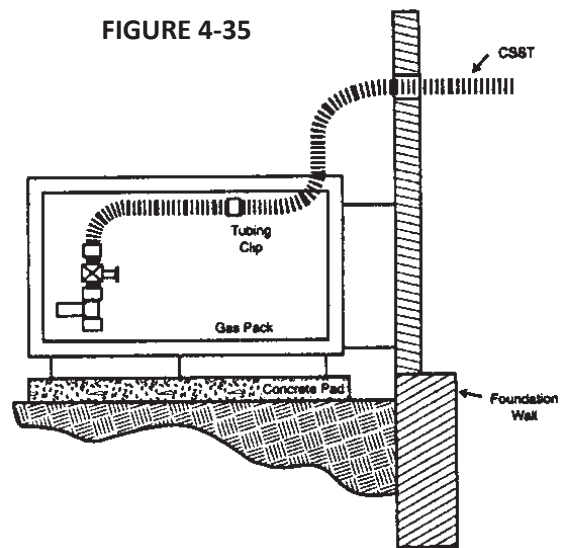

FIGURE 4-35
- When the equipment manufacturer requires the use of a flexible connector, the CSST shall be installed in a fashion similar to that shown in Figure 4-35